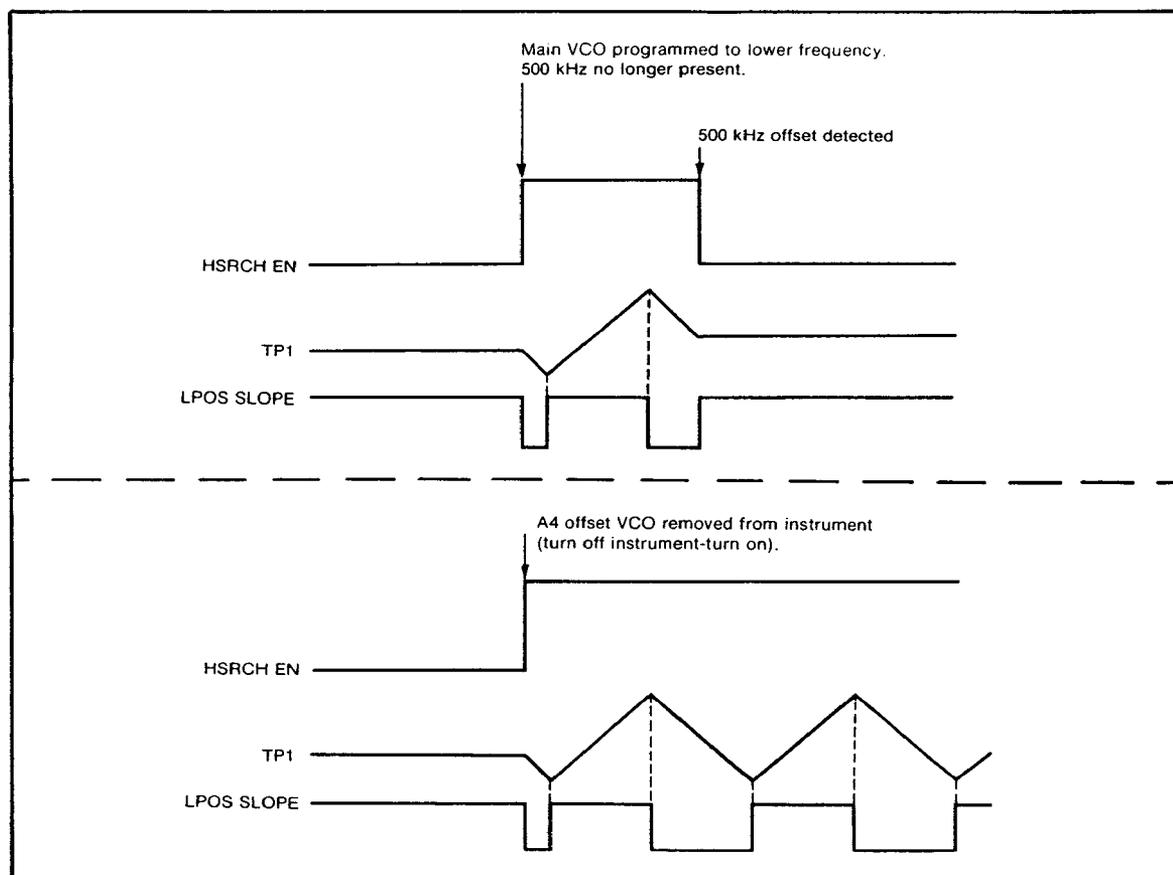

Figure 8-11. Timing Diagram of A6 Search Generator Operation
8-165. When the sweep ramp present at U1D(12) crosses above the upper threshold of 1.6 volts, the output of U1D(11) goes low, U1B(6) goes high and U1A(3) goes low. This causes Q4 to conduct which forward-biases CR4. Since U1B(6) is high, CR3 is reversed-biased. Current is now supplied through CR4 to the integrating capacitor C10. This causes the output of U2(6) to decrease linearly. Since U1A(3) is low, LPOS Slope is TTL low and the loop is allowed to lock once a 500 kHz difference frequency is detected on A7. When lock is achieved, HSRCH EN goes TTL low which causes U1B(6) and U1A(3) to both go TTL high, thereby reverse-biasing both CR4 and CR3. The voltage at the output of U2(6) is therefore maintained at that level which achieved lock. The timing diagram for this operation is shown in Figure 8-11.